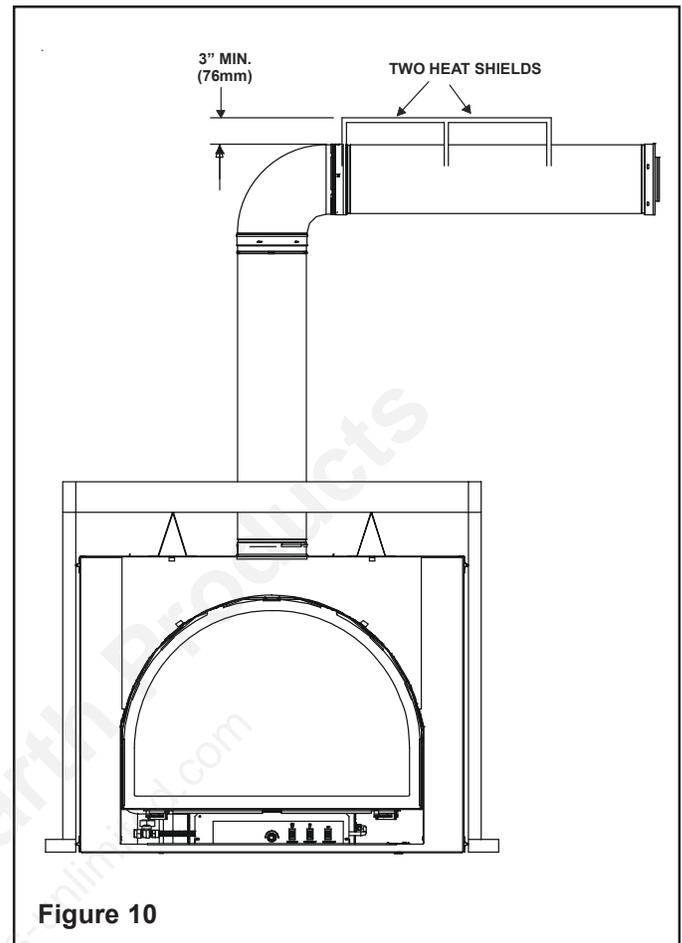

Figure 10
1. Determine if the heat shields are required. Do so by measuring the vertical distance between the top horizontal surface of the elbow to any combustible surface above. If the distance is more than 4 inches, the heat shields are **NOT** required. If it is 4 inches or less, the heat shields **ARE REQUIRED**. Install per the following steps. See Figure 10.